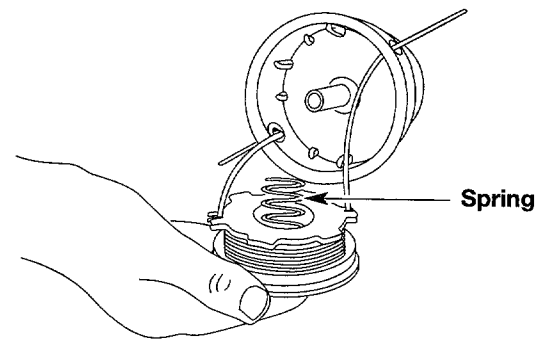

Figure 29
13. Insert the ends of the line through the eyelets in the outer spool and place inner reel with spring inside the outer spool. See Figure 29. Push the inner reel and outer spool together. While holding the inner reel and outer spool together, grasp the ends and pull firmly to release the line from the holding slots in the spool.
5. Insert the ends of the line through the eyelets in the outer spool. See Figure 29.